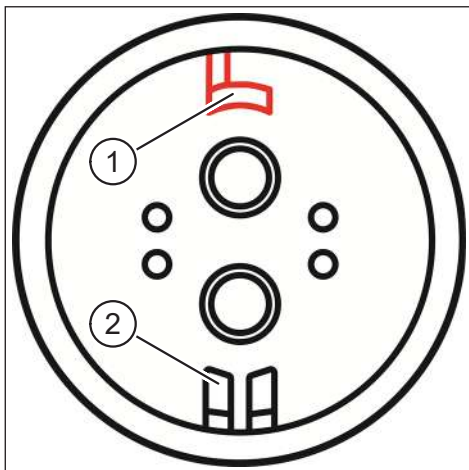

Fig. 24: Connector coding
- The connections on the charger, charging port and battery have reverse polarity protection. Observe the connector coding (No. 1 and No. 2 in Fig. 24) when connecting the charger.